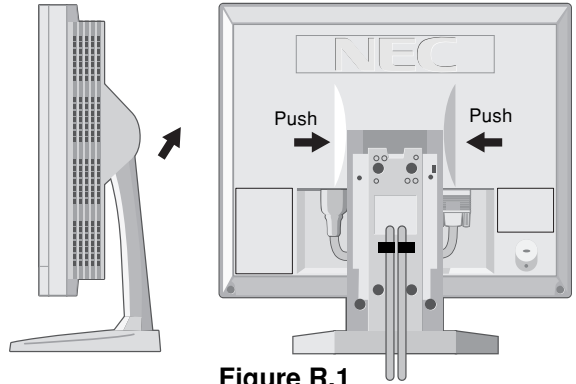

Figure R.1
1. Remove the connector cover, hinge cover and cable cover. (**Figure R.1**)